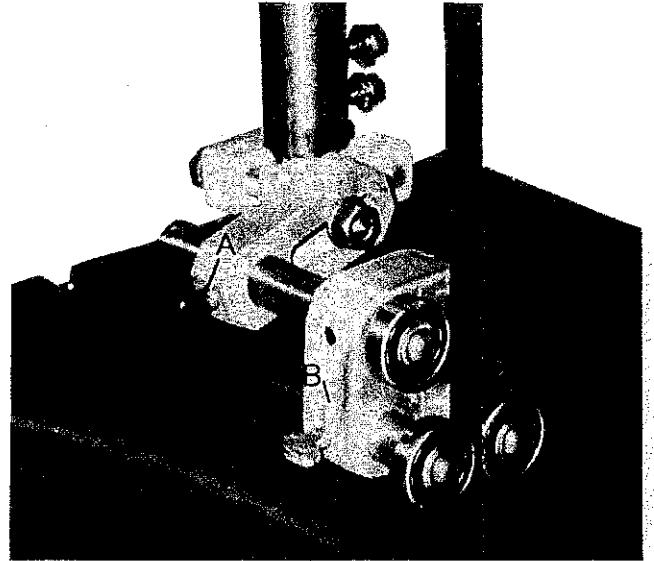

FIG 7
4. Loosen thumb screw "A", FIG.7, and move guide "B" to extreme rear position.